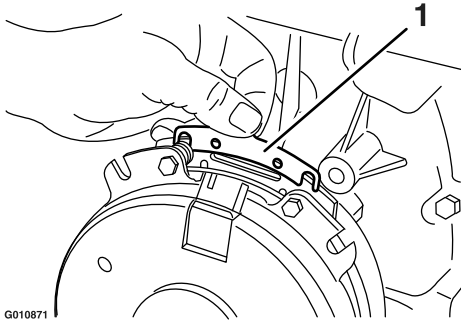

**Figure 79**
- A. Loosen both brake-mounting bolts 1/2 to 1 full turn as shown in Figure 79.